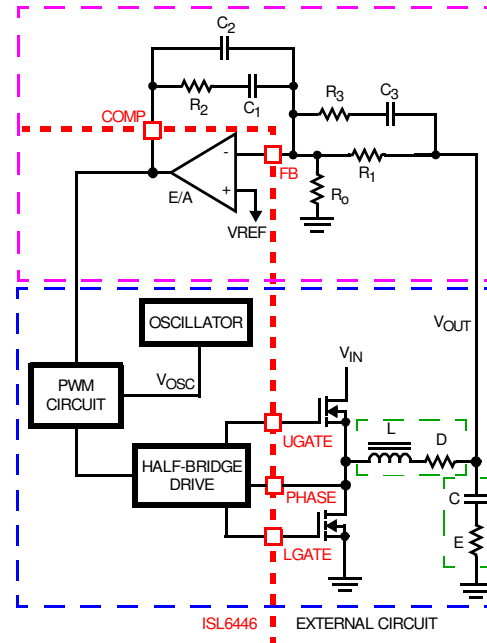

FIGURE 26. VOLTAGE-MODE BUCK CONVERTER COMPENSATION DESIGN
Figure 26 highlights the voltage-mode control loop for a synchronous-rectified buck converter, applicable to the ISL6446 circuit. The output voltage ( $V_{OUT}$ ) is regulated to the reference voltage,  $V_{REF}$ . The error amplifier output (COMP pin voltage) is compared with the oscillator (OSC) modified sawtooth wave to provide a pulse-width modulated wave with an amplitude of  $V_{IN}$  at the PHASE node. The PWM wave is smoothed by the output filter (L and C). The output filter capacitor bank’s equivalent series resistance is represented by the series resistor E.
The compensation network consists of the error amplifier (internal to the ISL6446) and the external  $R_1$  through  $R_3$ ,  $C_1$  through  $C_3$  components. The goal of the compensation network is to provide a closed loop transfer function with high OdB crossing frequency ( $F_0$ ; typically 0.1 to 0.3 of  $f_{SW}$ ) and adequate phase margin (better than  $45^\circ$ ). Phase margin is the difference between the closed loop phase at  $F_{0dB}$  and  $180^\circ$ . The equations that follow relate the compensation network's poles, zeros and gain to the components ( $R_1$ ,  $R_2$ ,  $R_3$ ,  $C_1$ ,  $C_2$ , and  $C_3$ ) in Figure 26. Use the following guidelines for locating the poles and zeros of the compensation network:
1. Select a value for  $R_1$  (1kΩ to 5kΩ, typically). Calculate the value for  $R_2$  for desired converter bandwidth ( $F_0$ ). If setting the output voltage via an offset resistor connected to the FB pin,  $R_0$  in Figure 26, the design procedure can be followed as presented in Equation 13.